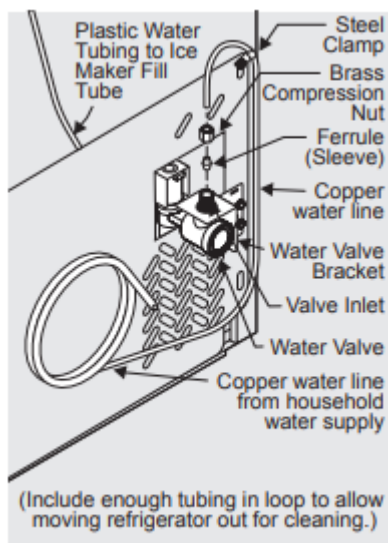

Figure 1
4. If you use copper tubing - Slide brass compression nut, then ferrule (sleeve) onto water supply line. Push water supply line into water valve inlet as far as it will go ( $\frac{1}{4}$  inch/6.4 mm). Slide ferrule (sleeve) into valve inlet and finger tighten compression nut onto valve. Tighten another half turn with a wrench; DO NOT over tighten. See Figure 1.